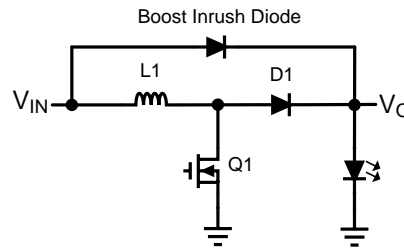

Figure 35. Boost Topology with Inrush Diode
- Add an inrush diode from  $V_{IN}$  to the output as shown in Figure 35.